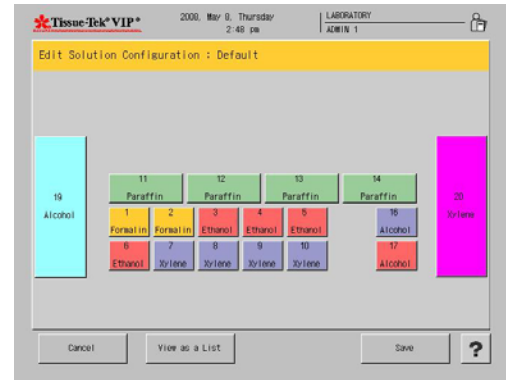

Figure 3-OO
- The Edit Solution Configuration Screen displays (Figure 3-OO).